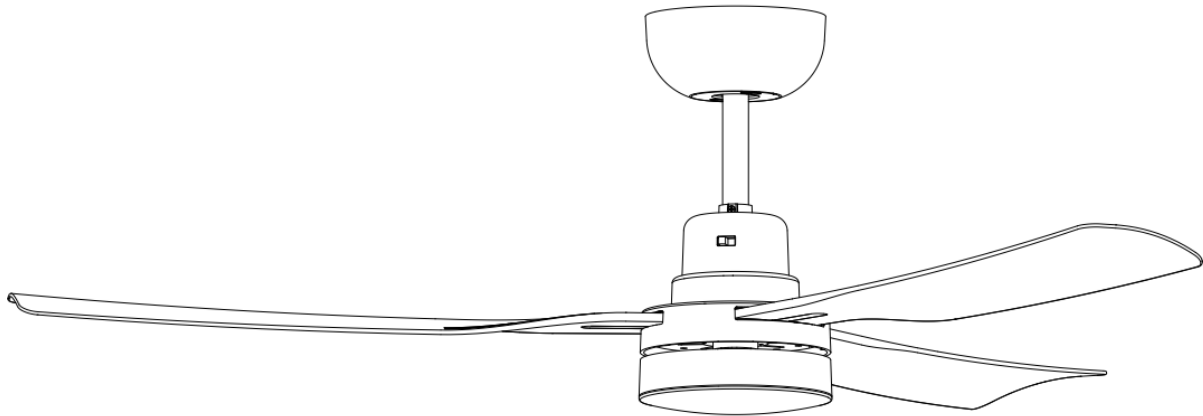

Fig. 6
2. Repeat this process for the remaining blades. (Fig. 6)